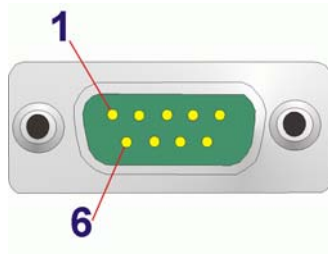

Figure 4-24: COM1 Pinout Locations
- CN Pinouts:** See **Table 4-23** and **Figure 4-24**